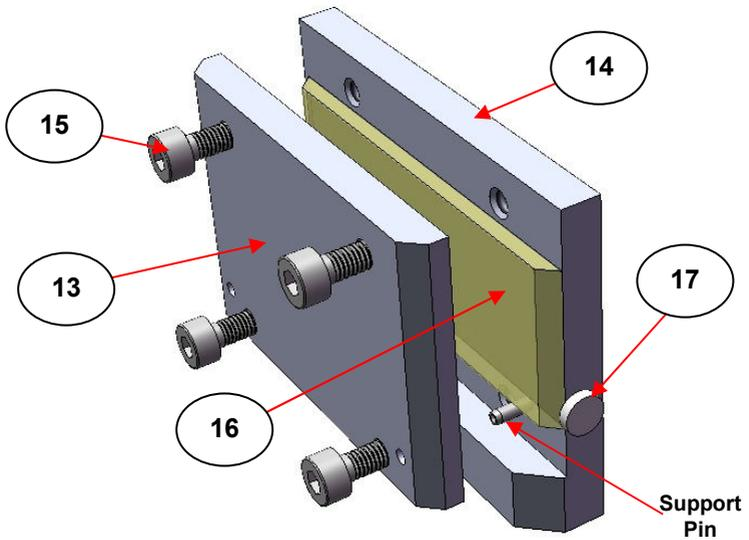

Fig 4. ATR Crystal as Positioned in the Solids Holder
For an assembly of the solids holder, the longer surface face of the trapezium shaped ATR crystal (**16**) is placed against the face of the longer clamp plate (**14**) (to the front of the holder) and the shorter surface face of the ATR crystal is placed against the face of the shorter clamp plate (**13**) (at the back of the holder). For correct positioning, the bottom edge of the ATR crystal sits upon the two support pins with one end (the apex tip) resting against the nylon end stop (**17**). (See **Fig 4.**)
For correct positioning, the bottom edge of the ATR crystal (16) sits upon the two support pins with one end (the apex tip) resting against the nylon end stop (17). (See Fig 4.)
For correct positioning of the sample with the ATR crystal (**16**), the bottom edge of the ATR crystal (**16**) sits upon the two support pins with one end (the apex tip) resting against the nylon end stop (**17**). (See **Fig 4**.) The sample covering both surfaces of the crystal in the construction **must not be larger than the surface area of the crystal itself**.